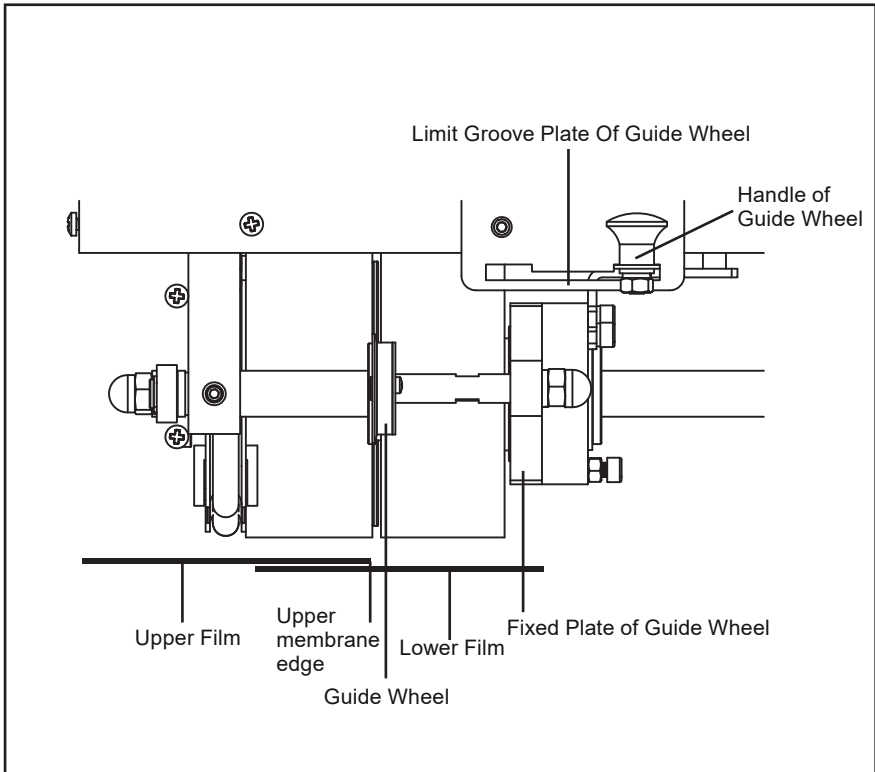

Fig 4
1. Depress handle to lift machine, move it to welding position (the edge of upper film should keep in the same alignment with drive roller), as shown in Fig 4.